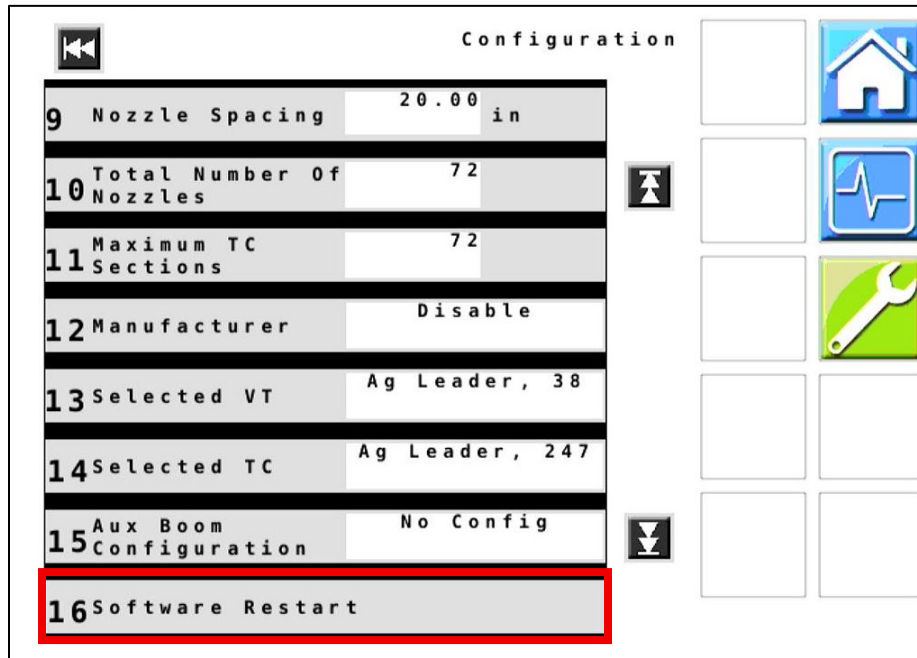

Figure 23 – Configuration Menu – Page 2
41. **Figure 23:** Navigate to **Page 2** and tap **Software Restart**.